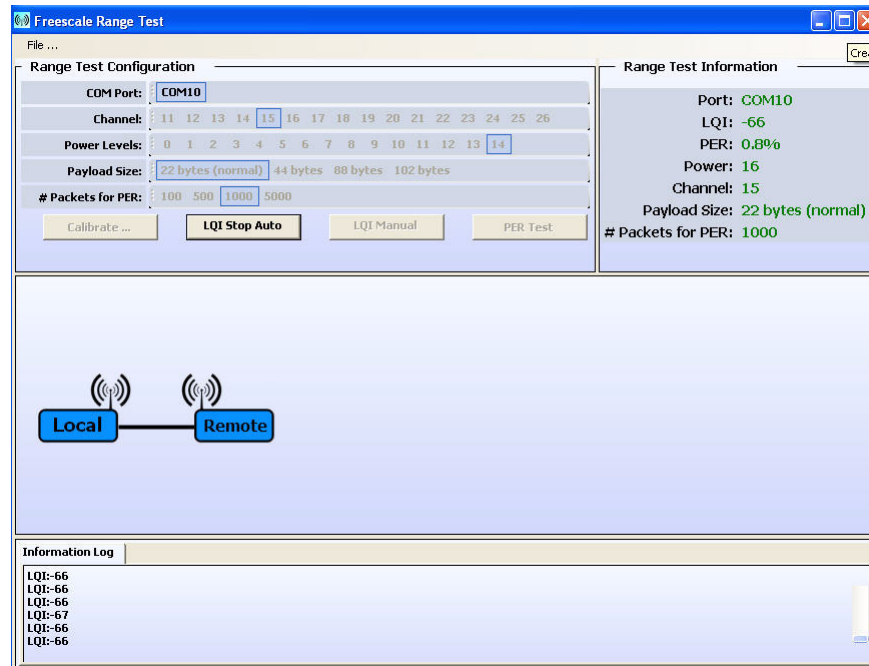

Figure 7-11. LQI Test (Auto Mode) Running
1. To start the LQI test in auto mode, click on “LQI Start Auto” button. In this mode, the local and remote nodes exchange information and the LQI value is continuously reported to the PC as shown in Figure 7-11.